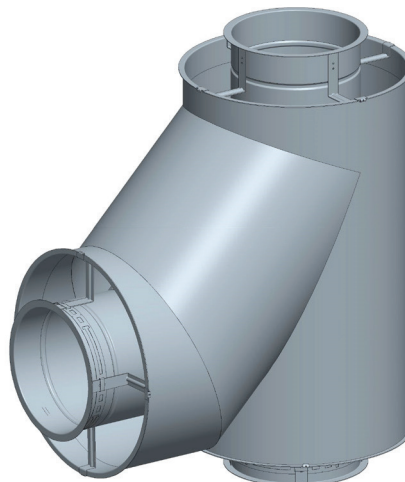

Figure 32 - Lateral Tee (BT)
The Lateral Tee (BT) is a 45° Tee with a 45° Elbow integrated in it. The installation details are the same as a 90° Tee. See **Figure 32**